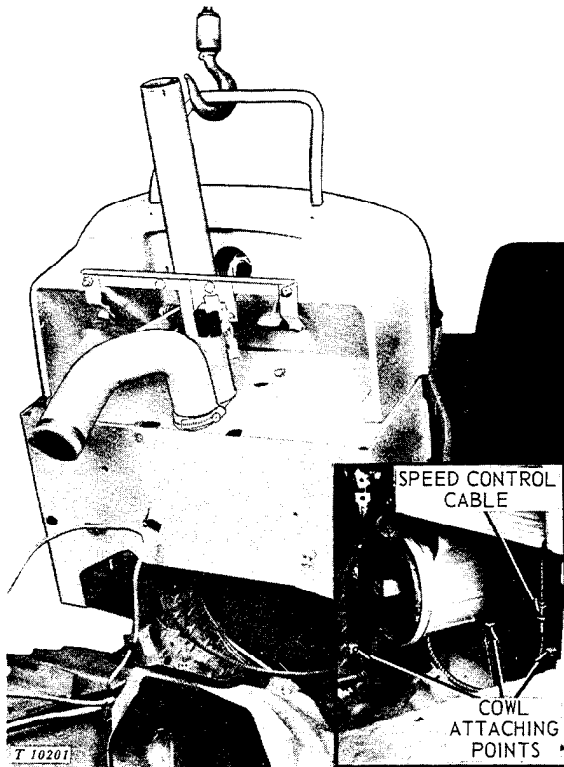

Fig. 20-10-1—Removing Cowl Support (Tractors without Loaders)
4. Remove two cap screws under cowl attaching cowl support to clutch housing or reverser case (see inset in Fig. 20-10-1).
7. With the aid of a chain hoist, lift cowl with support from tractor as shown in Fig. 20-10-1.
Using a chain hoist, install cowl support and secure with attaching cap screws (Fig. 20-10-1).